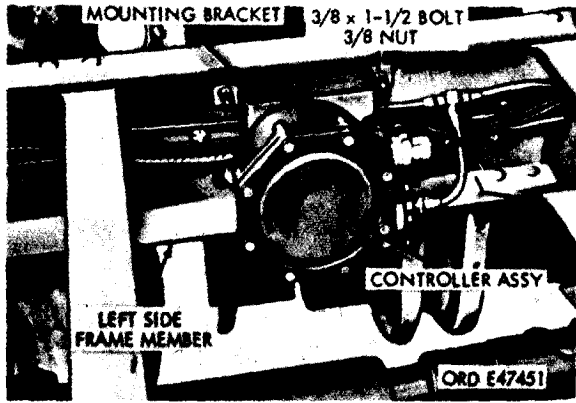
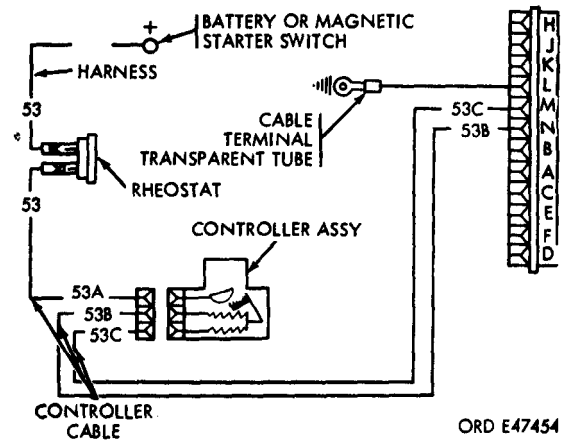

Figure 662. Controller installed
Figure 665. Wiring diagram for one-receptacle trucks
- (1) The controller assembly is waterproof, 24-volt capacity, and air operated. It transmits an electric current to M and N terminals (figs. 665 and 666) of the truck trailer receptacle. The controller is mounted inside of the left side frame member just rear of the cab (fig. 662).
d. Install controller mounting bracket (Q) on frame member (fig. 662), using four 3/8-inch
a. Cut off two shortest leads marked 53 (fig. 665) from rheostat-to-controller cable (E, fig. 660) at molded splice and tape ends to make waterproof. Connect cable to controller.
b. Disassemble trailer receptacle located at rear of truck. Remove terminal pins (M and N, fig. 665) and solder to two remaining short leads of controller cable (E). Install leads in receptacle, making sure controller
terminals (B and C, fig. 665) are connected to receptacle terminals N and M, respectively (fig. 665).
c. Remove trailer receptacle terminal pin (L, fig. 665) and solder to required length of lead cut from cable (G). Install lead in receptacle and connect free end to ground location of trailer receptacle terminal D, using transparent tubs 7056633 and terminal 7056706 (fig. 665).